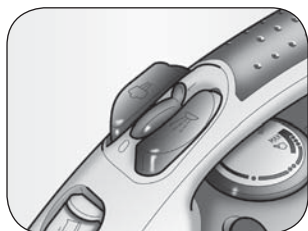

Fig. 2
- 1 Set the steam control knob (D) onto "0" (Fig. 2).